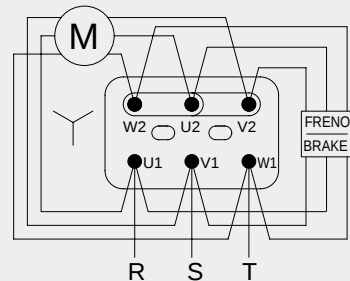

Fig. 17
Collegamento stella (Y): (fig. 17)
Delta connection (Y): (fig. 17)